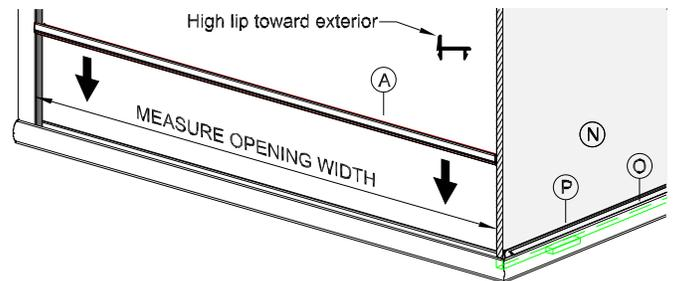

figure 5
Measure the door opening width as shown in figure 5 (measurement is taken from edge of Wall Jamb to inside edge of Glass Panel as shown). Cut Dam Sill (A) to measurement obtained. With high lip toward exterior, position the Dam Strip on the Sill (M) and snap it into place.
With drip wing positioned toward inside of shower enclosure, Insert Drip Rail (E) onto the bottom edge of the Door Assembly (D) as shown in exploded view - sheet 1 and figure 5. Now snug the Drip Rail up to the vertical Vinyl; mark the edge of the door glass on the rail and cut off the excess as shown in figure 10.